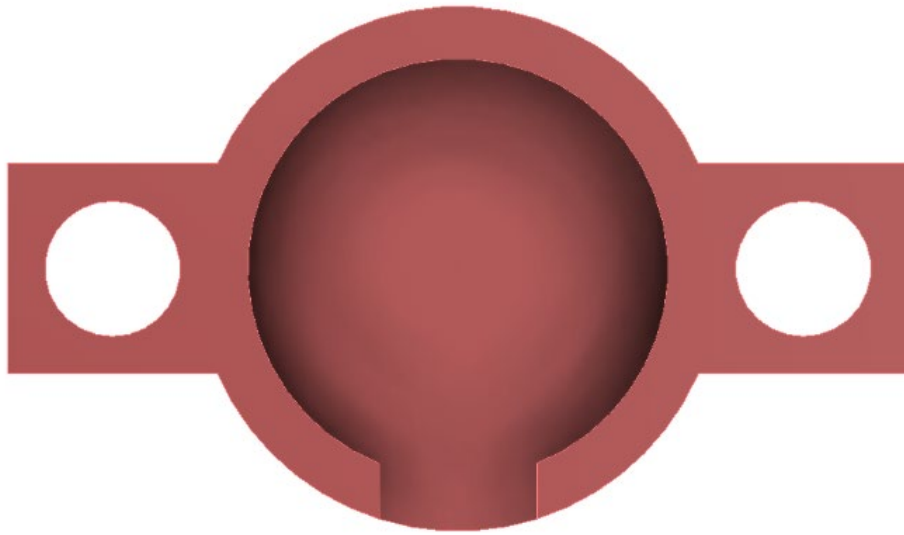

Figure 4: Vibration Motor B Holder
3. Place the vibration motor B holder (Figure 4) on the acrylic base plate and hot glue it.